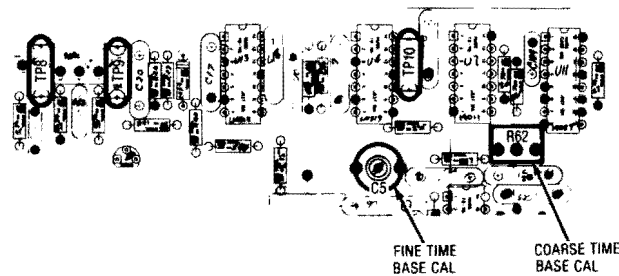

Figure 5-16. Horizontal Time Base Alignment Points
4. Adjust the Coarse Time Base Calibration Potentiometer on the Scope Amplifier Board (Figure 5-16) so that one cycle of the displayed waveform occurs in 5 cm along the horizontal axis. Use the Vertical and Horizontal Position controls to center and to move the waveform so that the 5 cm are measured in the middle of the screen to avoid nonlinearities near the edge of the CRT.
6. Adjust the Fine Time Base Calibration Capacitor on the Scope Amplifier Board (Figure 5-16) so that one cycle of the displayed waveform occurs in 5 cm along the horizontal axis. Use the Vertical and Horizontal Position controls to center and to move the waveform so that the 5 cm are measured in the middle of the screen to avoid nonlinearities near the edge of the CRT.